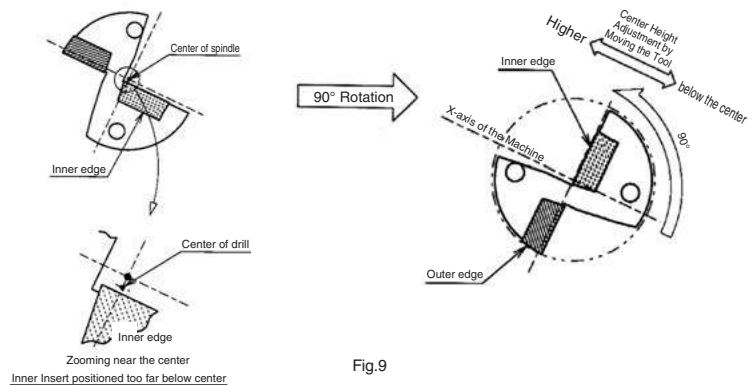

Fig.9
- (2) If the core diameter becomes too large after the above adjustment, install the drill by rotating 90° counter-clockwise as shown in Fig.9 (outer insert is positioned lower) and adjust the center height by moving the tool in the X-axis direction. (However, this makes it impossible to adjust the drill diameter)